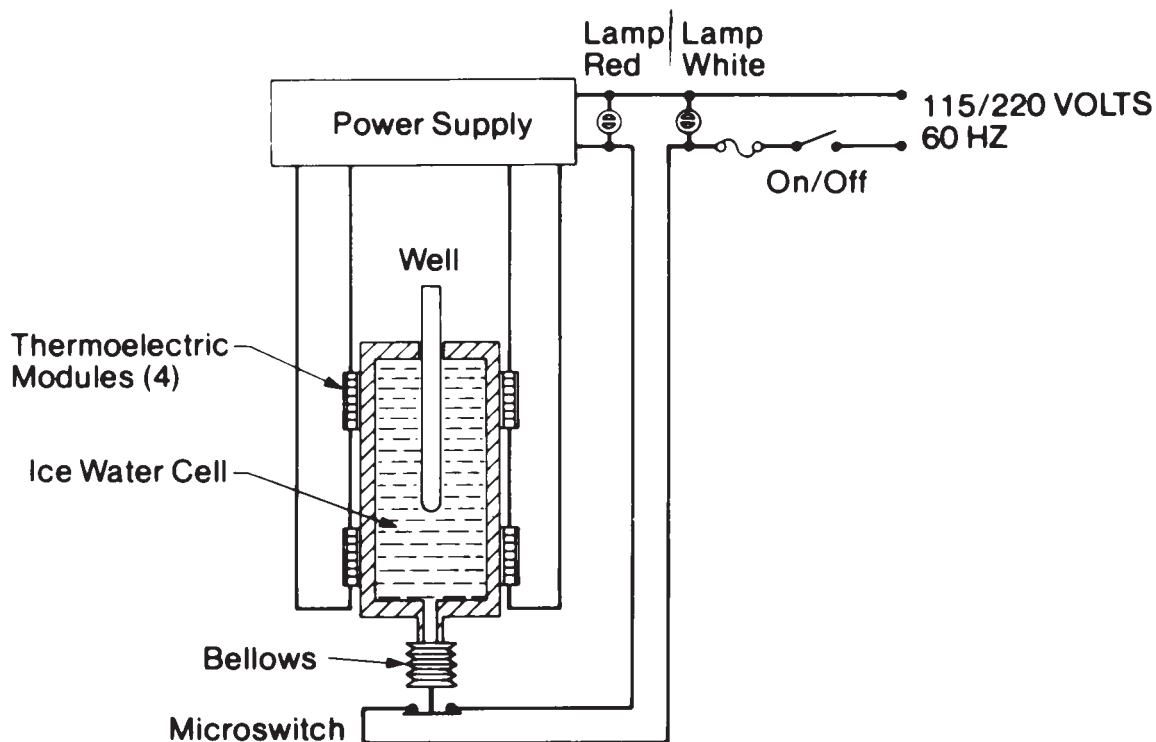

Figure 4-1. Internal View of the ice point™ Reference Cell
- Below the power switch and light are 6 reference wells (4 .0 mm [5/32"] ID holes) where up to 6 thermocouple probes can fit in to be tested. Refer to Figure 4-1. These reference wells extend into a sealed cylindrical cell containing distilled, deionized water. The Reference Cell wall is cooled by thermo-electric modules. When ice is formed within the Reference Cell, an increase in volume is sensed by the expansion of a bellows. This bellows actuates a microswitch which turns off power to the modules. As the ice within the Reference Cell begins to melt, the bellows contracts. This activates the microswitch, that in turn energizes the cooling modules. The microswitch actuator is factory-adjusted to maintain sufficient ice within the Reference Cell to maintain a well temperature within  $0^{\circ}\text{C} \pm 0.1^{\circ}\text{C}$ . The sensitivity of the bellows mechanism is such that the amount of formation and melting of ice will provide stability to within  $\pm 0.04^{\circ}\text{C}$ .